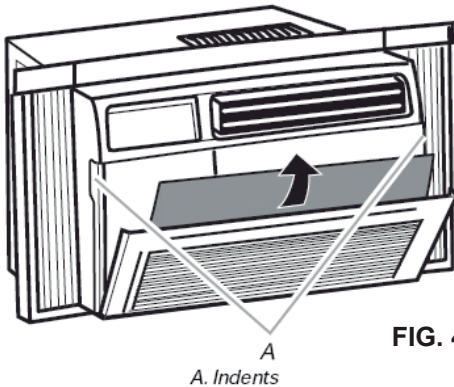

FIG. 4
1. Remove the filter by pulling down on the indents of the filter door on the front of the unit. (See FIG. 4)